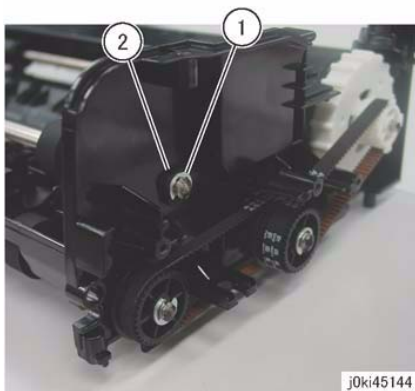

Figure 7 Front Bearing Removal
16. Remove the bearing at the front. (Figure 7)